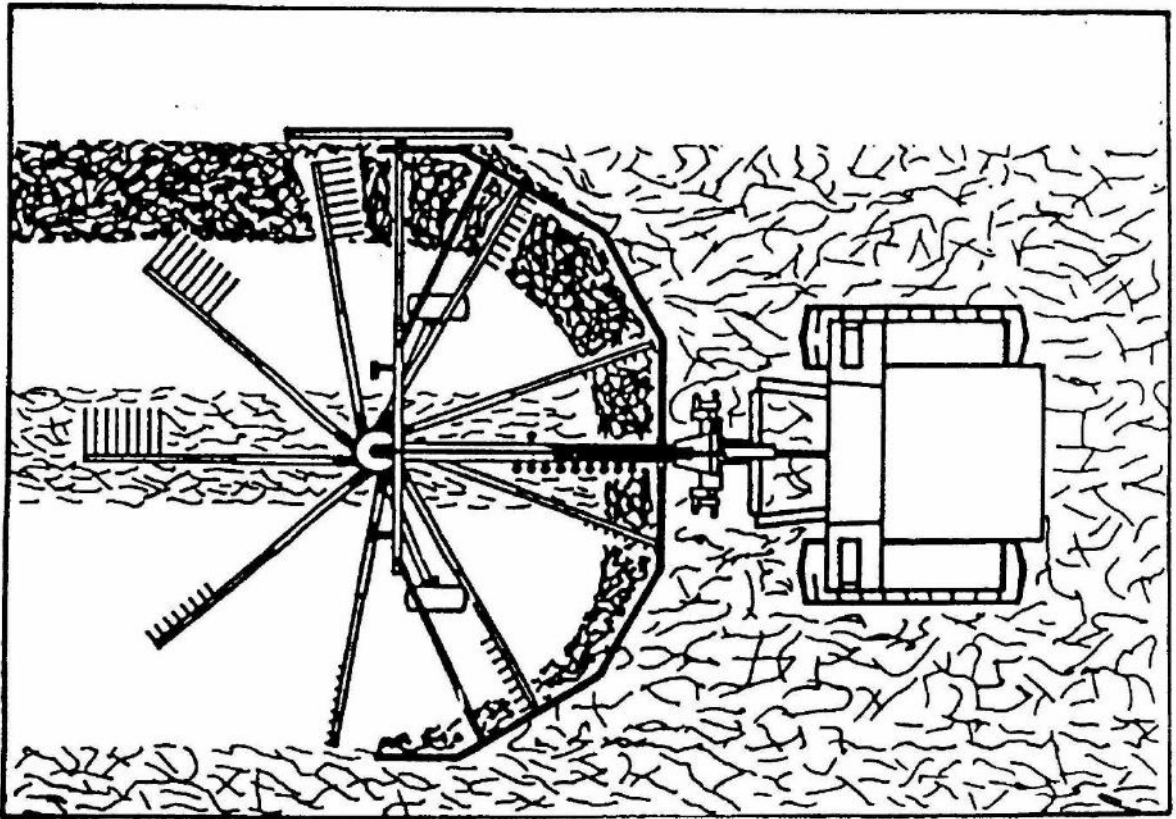

Fig. 19
- excessive length of three-point linkage central link - causes the hay rake to leave crop in the middle of working width, as shown in figure 19.